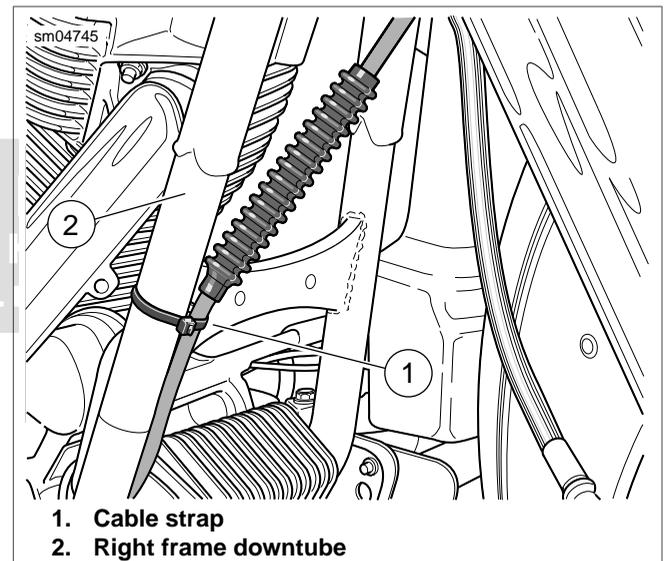

Figure 2-87. Clutch Cable Routing (Right Side View)
13. Cut cable strap in hole of crossbrace to free clutch cable from right frame downtube. See Figure 2-87. Continue as follows:
6. **All Models**, Continue downward progression while crossing to right side of motorcycle and then run cable between outboard side of voltage regulator and inboard side of right frame downtube. Threading cable strap through hole in crossbrace, secure clutch cable to downtube as shown in Figure 2-87. Following inboard side of frame downtube, route cable between bottom of cam cover and top of lower frame tube to area of clutch release cover.